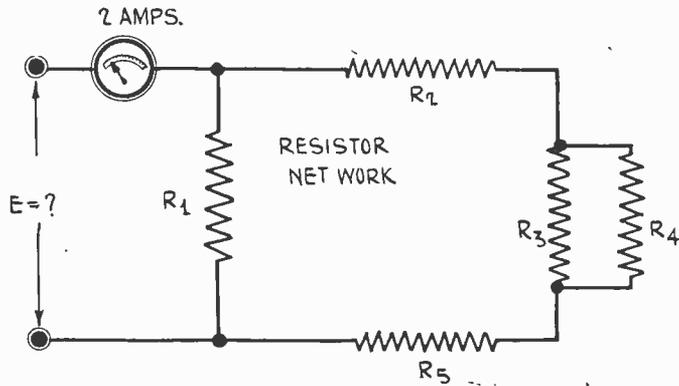

FIG. 1
The type of measurements that radio fans are most interested in pertains to resistance net works, of which Fig. 1 is an example. Probably the reason why interest in networks is claiming the attention of the experimenter is that so many have been interested in circuits such as the Loftin-White, various "B" eliminator "systems," including those that provide for the operation of dynamic speaker field coils, and charging of storage batteries, using vacuum tubes, mercury vapor tubes, generators and other devices. To all these a study of the circuit network of Fig. 1 is suggested.
An inspection of Fig. 1 will show that there is both series and parallel networks and therefore the utilization of both formulas is indicated, which might cause some concern if the solution of the problem were a part of a mid-town college examination.
Since the solution of Fig. 1 involves the use of (1) and (2), we may as well try first to decide whether there is any special advantage in the use of either one. Here, as before, we may as well pretend that the equations are "in series" also, and that being so, there is no reason why any preference should be shown, just so long as R3 or R4 are not combined with any other resistor in the network.